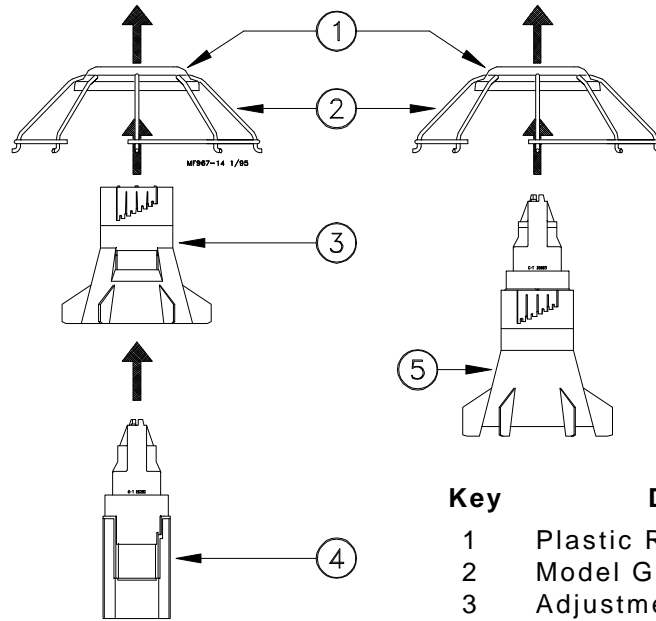

Figure 27. Model G Feeder Assembly (Side View)
The Model G Feeder is available with a two-piece or one-piece (windowless) model. Both versions are shown in Figure 27.
1. Two-Piece Grill Support: Insert the Support Cone up through the bottom of the Adjustment Cone, as shown in **Figure 27**.
2. Insert the Grill Support component(s) into the plastic ring in the top of the Grill Assembly, as shown in **Figure 27**.